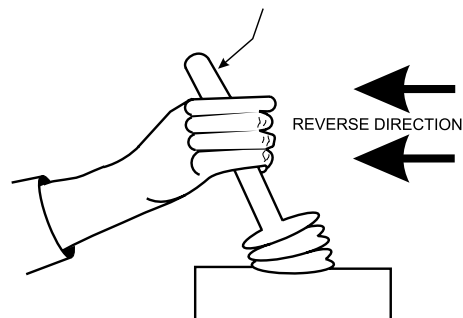

Figure 14. Joystick Control Reverse Direction
7. Push both the left and right joysticks backward (Figure 14) and repeat steps 3 through 6 while substituting the word reverse for forward.